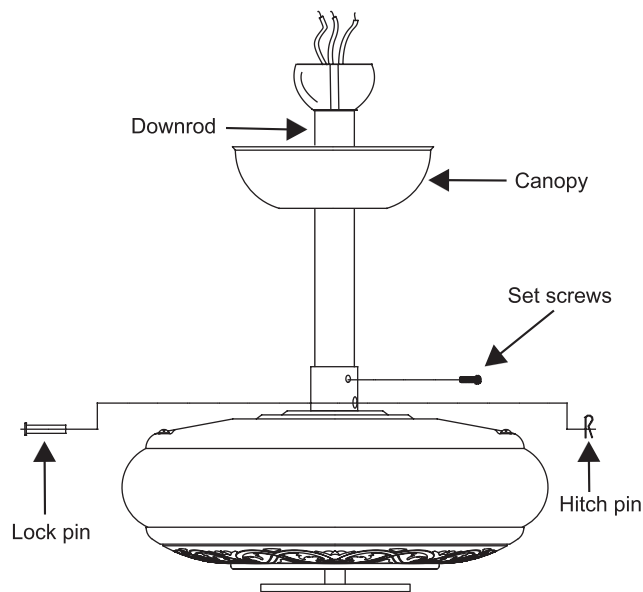
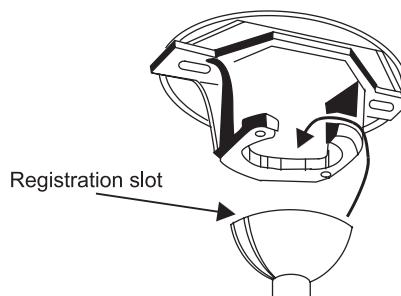

Figure 6
Figure 7
**Step 4.** Route wires exiting from the top of the fan motor through the canopy and then through the ball / downrod. (Fig. 6)
**Step 5.** Align the holes at the bottom of the downrod with the holes in the collar on top of the motor housing (Fig.7). Carefully insert the hanger pin through the holes in the collar and downrod. Be careful not to jam the pin against the wiring inside the downrod. Insert the locking pin through the hole near the end of the hanger pin until it snaps into its locked position, as noted in the circle inset of Fig. 6.
**Step 6.** Tighten two set screws on top of the fan motor firmly. (Fig. 6)
**Step 7.** Place the downrod ball into the hanger bracket socket. (Fig. 7)